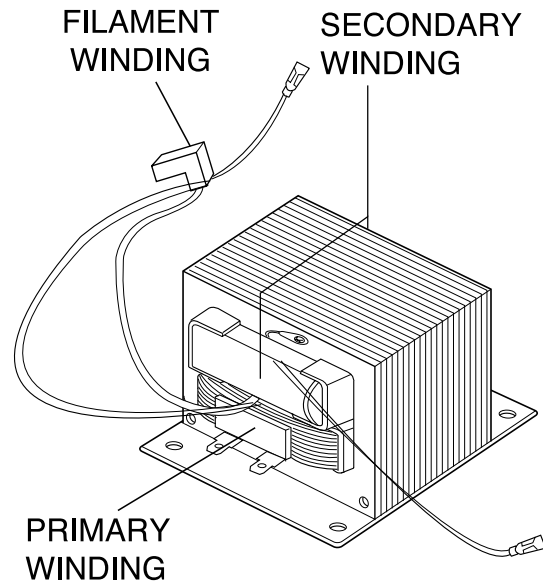

Figure 25
- DISCONNECT THE POWER SUPPLY CORD FROM THE WALL OUTLET WHENEVER REMOVING THE CABINET FROM THE UNIT. PROCEED WITH THE TESTS ONLY AFTER DISCHARGING THE HIGH VOLTAGE CAPACITOR AND REMOVING THE WIRE LEADS FROM THE PRIMARY WINDING OF THE HIGH VOLTAGE TRANSFORMER. (SEE FIGURE 25)